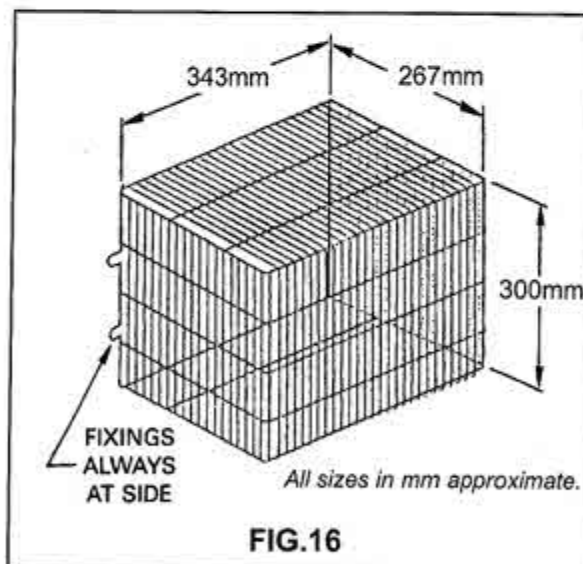

FIG.17 CIRCULAR BALANCED FLUE KITS 2350 & 2351
ASSEMBLY METHOD (Figs. 17 to 19)
2. Remove the four nuts on top of the boiler and remove the flue socket, leaving the gasket (item 8, Fig. 17) in position.
3. Fit the sealing plate (7) over the four studs, and place the terminal gasket (6) over the sealing plate.
5. Assemble the flue by sliding the terminal section (1) into the elbow section (2), making sure all 'O'-ring seals (9) are in position.
9. Connect the hose from the burner to the socket on the end of the terminal using the jubilee clip provided (10).